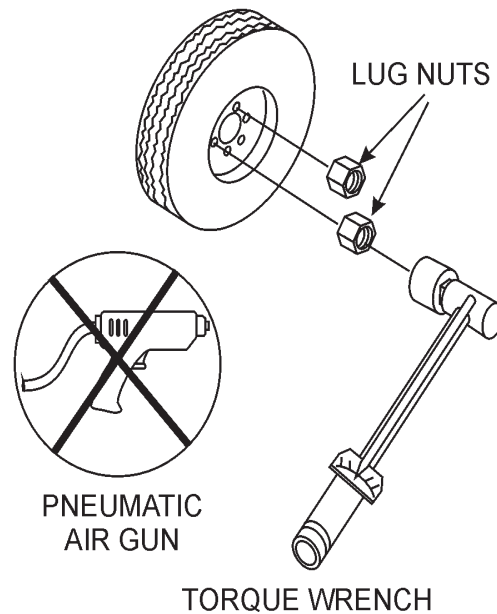

Figure 38. Wheel Lug Nuts Tightening Sequence
10. **Lug Nuts** – Used to secure the wheel to the wheel hub. Always use a torque wrench to tighten down the lug nuts. See Table 7 and Figure 38 for lug nut tightening and sequence.
2. Torque all lug nuts in sequence. See Figure 38. **DO NOT** torque the wheel lug nuts all the way down. Tighten each lug nut in 3 separate passes as defined by Table 7.